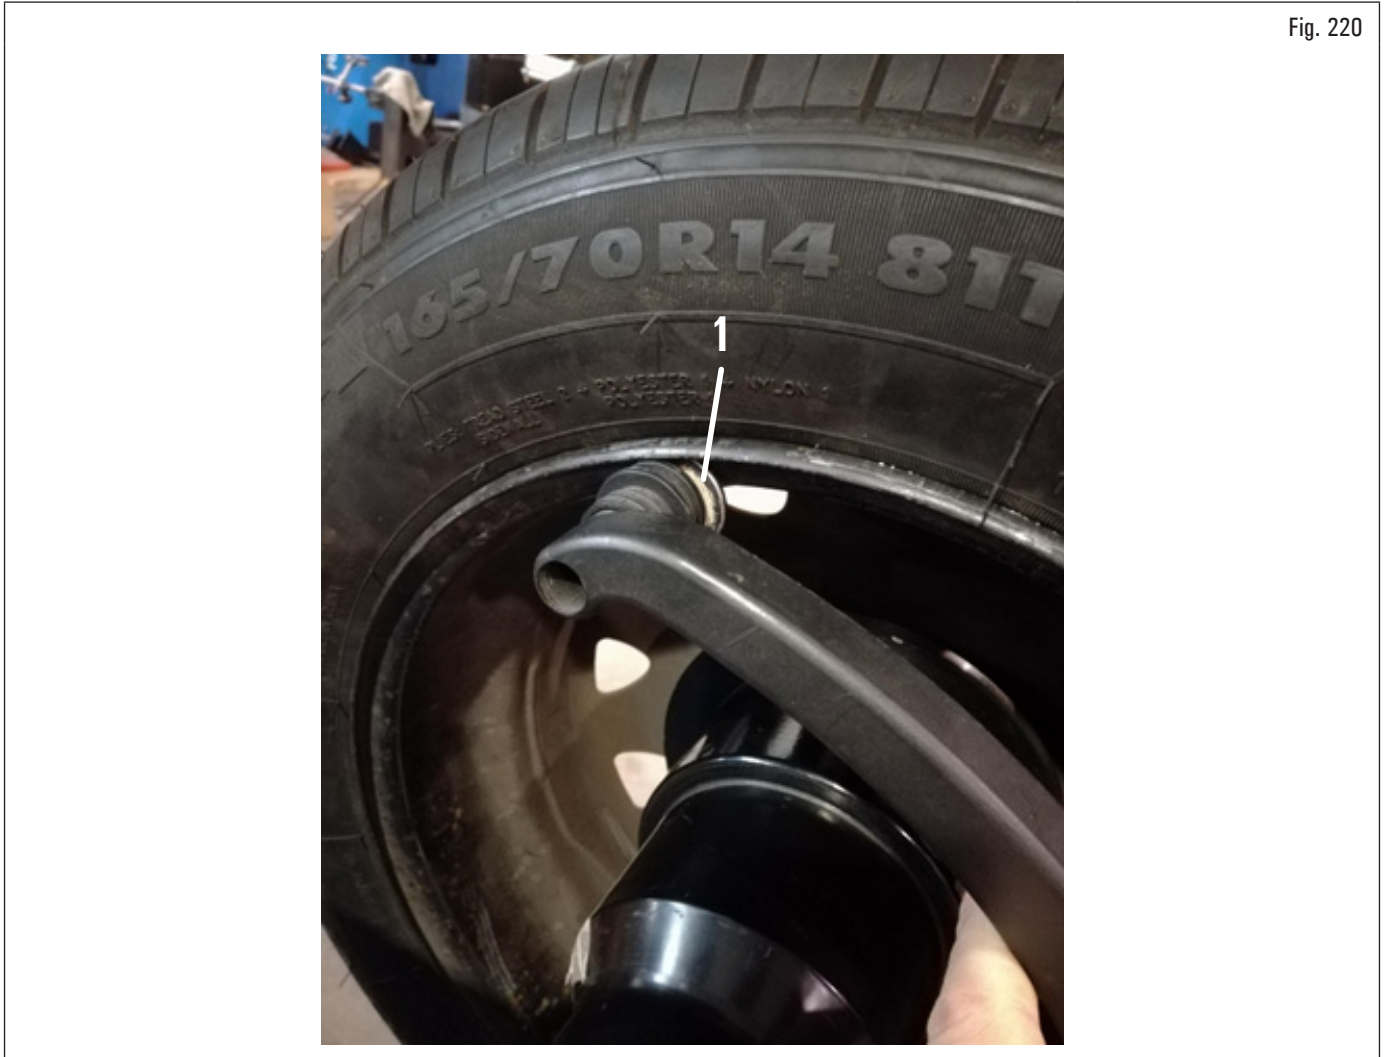

Fig. 220
Move the gauge bushing onto (Fig. 220 ref. 1) the inner edge of the wheel upwards (see Fig. 220).